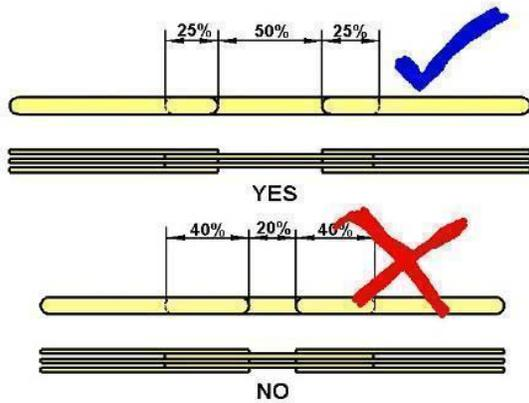

Figure 1 - "50% Rule" Restrictions
- Bridge crossing must be continuous, flat, and level. The bridge crossing shall maintain gaps to avoid violating the 50% rule. Refer to Figure 1 above.